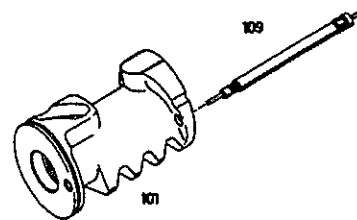

Fig.13
The tappet of the valve insert (109) (*see Fig. 13*) installed in piston (101) must not be damaged.
7.3 Check the valve insert (109) installed in piston (101) (*see Fig.13*) for radial or axial play, mechanical damage and any internal leaks.
Release caulking and screw valve insert (109) out of piston (101) with tool [2] (Fig.13).